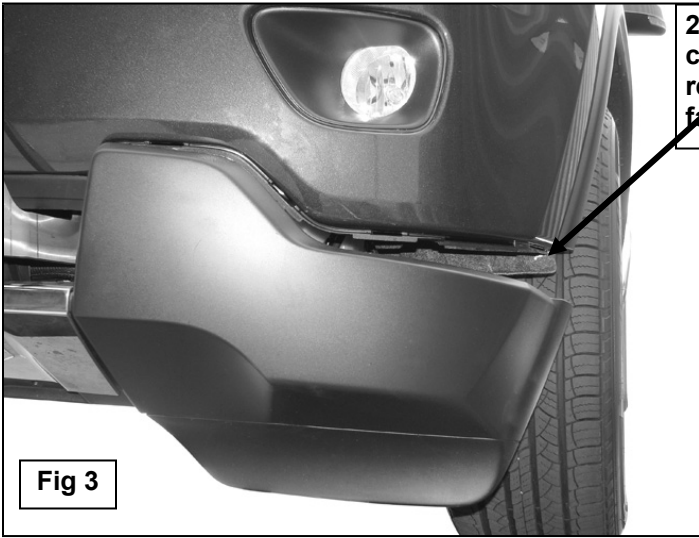

Fig 3
- 2011-13:** Remove the factory hardware securing the ends of the bumper cover. Release the clips at the ends of the plastic bumper cover that attach the lower cover to the upper cover, **(Figure 3)**. **NOTE:** It is not necessary to remove the lower bumper cover, only release the clips at both ends of the cover. Next, remove the (3) clips fastening the air deflector to the bottom of the crossmember, **(Figure 4)**. Carefully pull the bumper cover forward for access and pull the air deflector out from behind the bumper cover, **(Figure 5A)**. Release the (2) clips and remove the block-off cover at each end of the air deflector, **(Figure 5B)**. Reinstall the air deflector, (without block-offs), and bumper cover using the factory hardware.